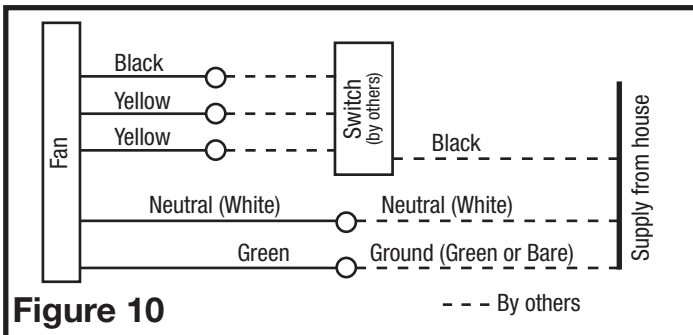

Figure 10
- 2b. **Intermittent Ventilation:** For two speed fans wired for intermittent ventilation with a standard duplex toggle switch (such as Leviton 5224-2W not included). Connect the White wire of the fan to the White (Neutral) wire from the power source. Connect the ground wire from the fan to the ground wire from the power source. Properly ground the switches. Connect the black wire from the supply to one side of the top switch. Connect the black wire from the fan to the other side of the top switch, Connect 1 yellow wire from the fan to each side of the bottom switch. The top switch turns the fan On & Off, the bottom switch changes speed between high and low (Figure 10).